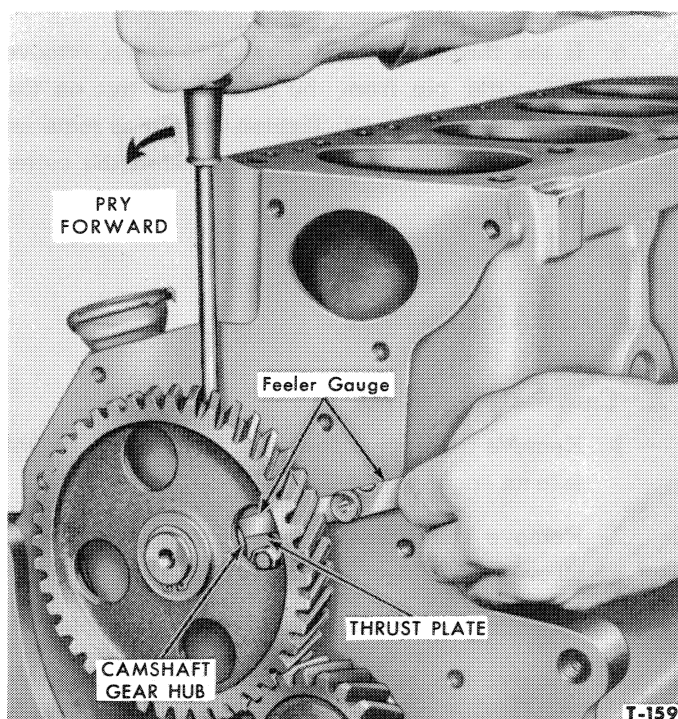

Figure 71—Checking Camshaft End Play
between the hub of the camshaft gear and the thrust plate with a feeler gauge, as shown in Figure 71. If the clearance exceeds 0.007", replace the thrust plate before reassembly.
3. Check the camshaft end play with a feeler gauge to be certain that it is within tolerances (0.003-0.007"), Figure 71.